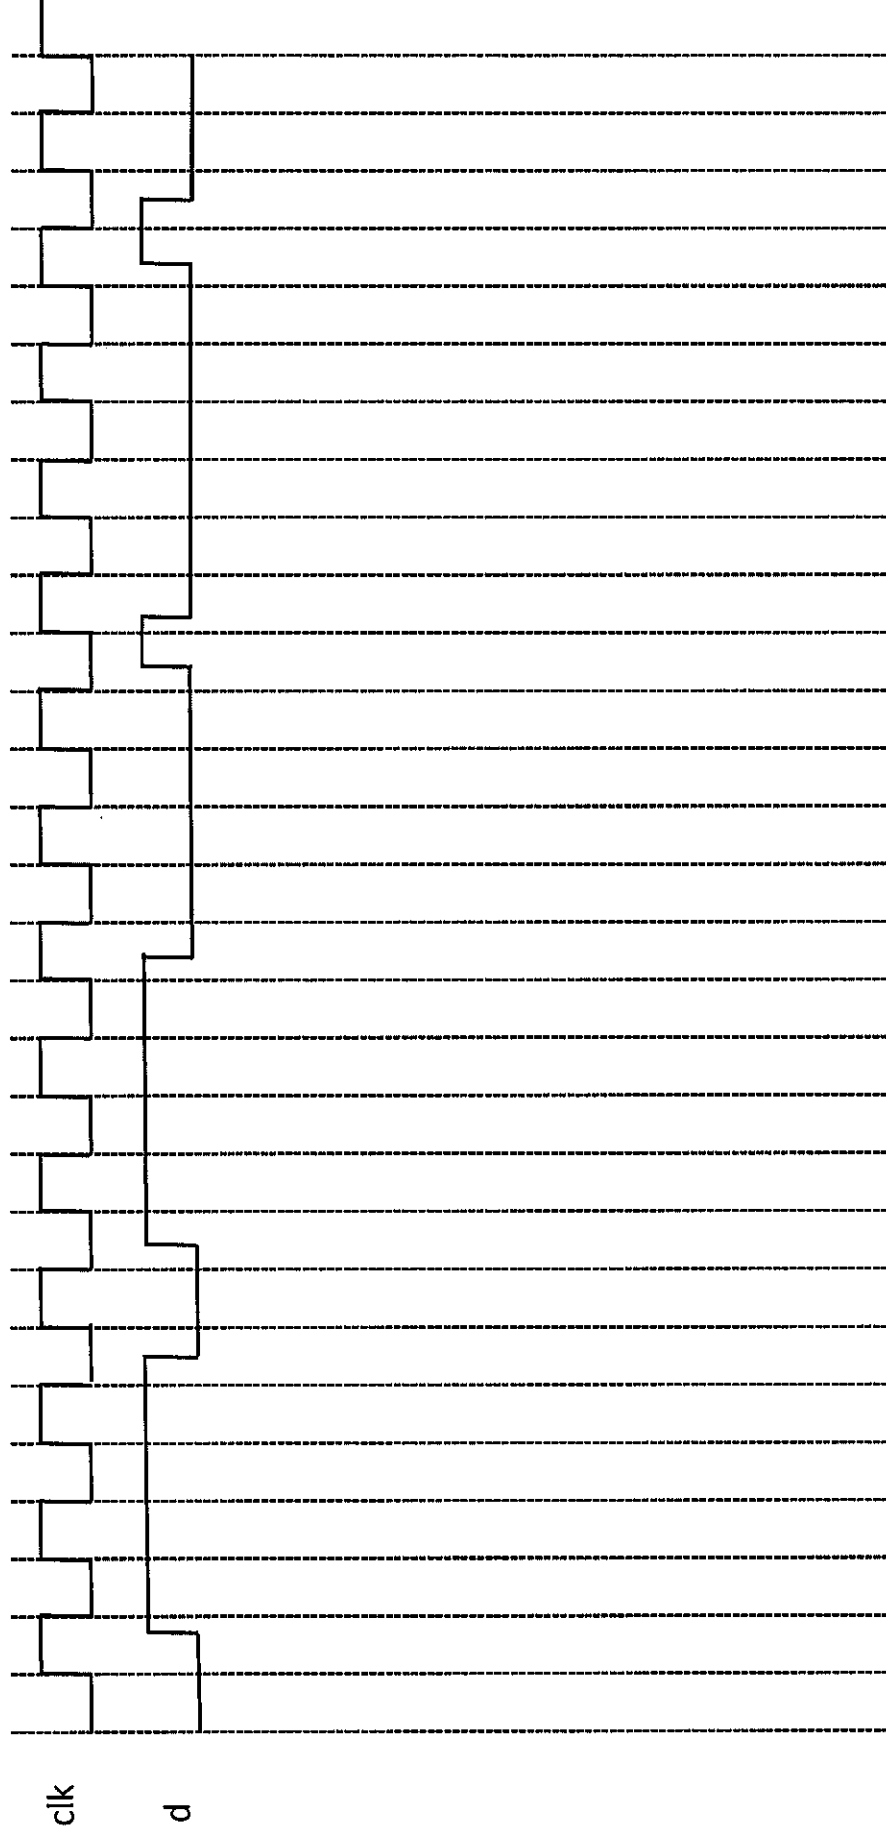

Figure Q4b (Question 4 is on previous page)
- (b) Consider the input D as shown in Figure Q4b on the next page. Complete the timing diagram, clearly showing the outputs Y and Q. Also indicate when the master and slave latches are active.
[note Figure Q4b on next page.....]